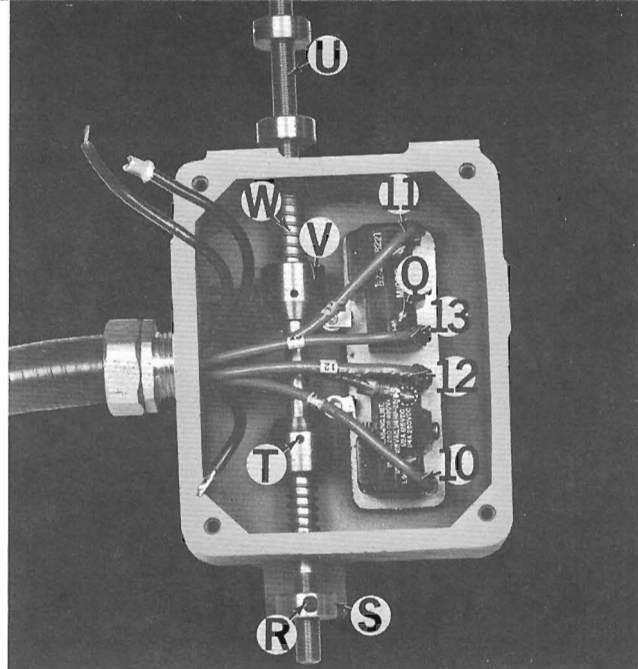

Figure 79 — Drive Switches and Cams
13. Disconnect wires 10, 11, 12, 13. Figure 79.
3. Replace micro switches and wires 10, 11, 12, 13 and ground wire, Figure 79.
4. Replace springs "W", cams "V", stop rod "U" and roll pins "T", Figure 79.
12. Start only, stop collars "A", Figure 74, and "S", Figure 79. (Do not tighten lock screws.)